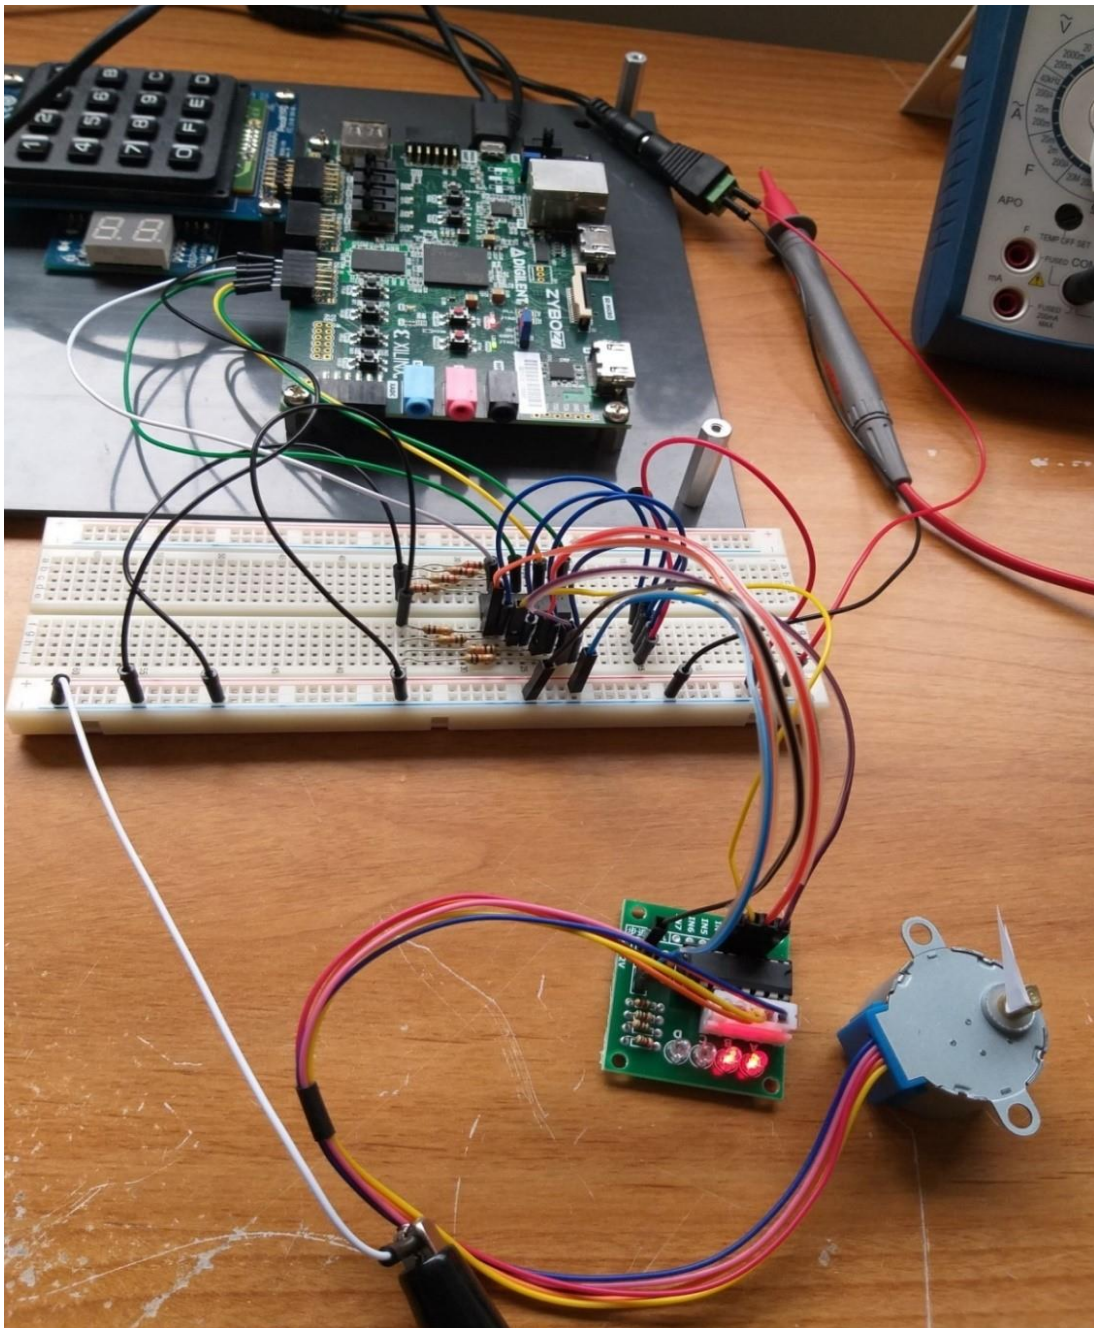

Fig. 1: The Lab 4 Hardware Configuration
The **hardware configuration** shown in **Figure 1** needs to be **assembled and verified** by you in the lab session. This is possible to do in well under one hour. There are five connected subsystems: (1) The Zybo Z7 board, which needs to have the PmodSSD card removed so that the four motor control signals and digital ground can be connected to the upper sockets of the JC Pmod header; (2) an opto-isolation circuit for the motor control signals, which needs to be assembled on the breadboard; (3) a ULN2003-based driver board, which needs to be connected between the opto-isolation circuit and the four motor control signal wires; (4) the 28BYJ-48 stepper motor; and (5) an external 5-V DC power supply, which supplies the current to the stepper motor windings. The instructions for each of the five subsystems are given below:
(1) Remove the 7-segment LED display Pmod module from the Zybo Z7 board
(2) Assemble the opto-isolation circuit on the breadboard
Step 3: Carefully read the following. When the **current flowing** through the **stepper motor's stator windings** is **switched on** and **off**, **voltage spikes** are **induced** across the windings following Faraday's Law of induction. These voltage spikes can be **many volts** in magnitude and they can thus **damage** the **sensitive digital components** on the Zybo Z7 board, which operate on a **3.3-V DC supply**. **Thus it is essential that the electrical motor drive control signals from the Zybo Z7 be isolated electrically from the drive transistors and the stepper motor windings.** This will be done using an **opto-isolation circuit** (Fig. 4), which you will build on the breadboard (see Fig.1).
Step 4: Plug the LTV-847 quad opto-isolator IC into the breadboard, as shown in Fig. 1. The small depression in the IC, indicating **pin #1**, should be at the top-left corner. Connect pins #2, #4, #6 and #8 through separate 220-ohm transistors (with red-red-black-gold bands) to your ground rail